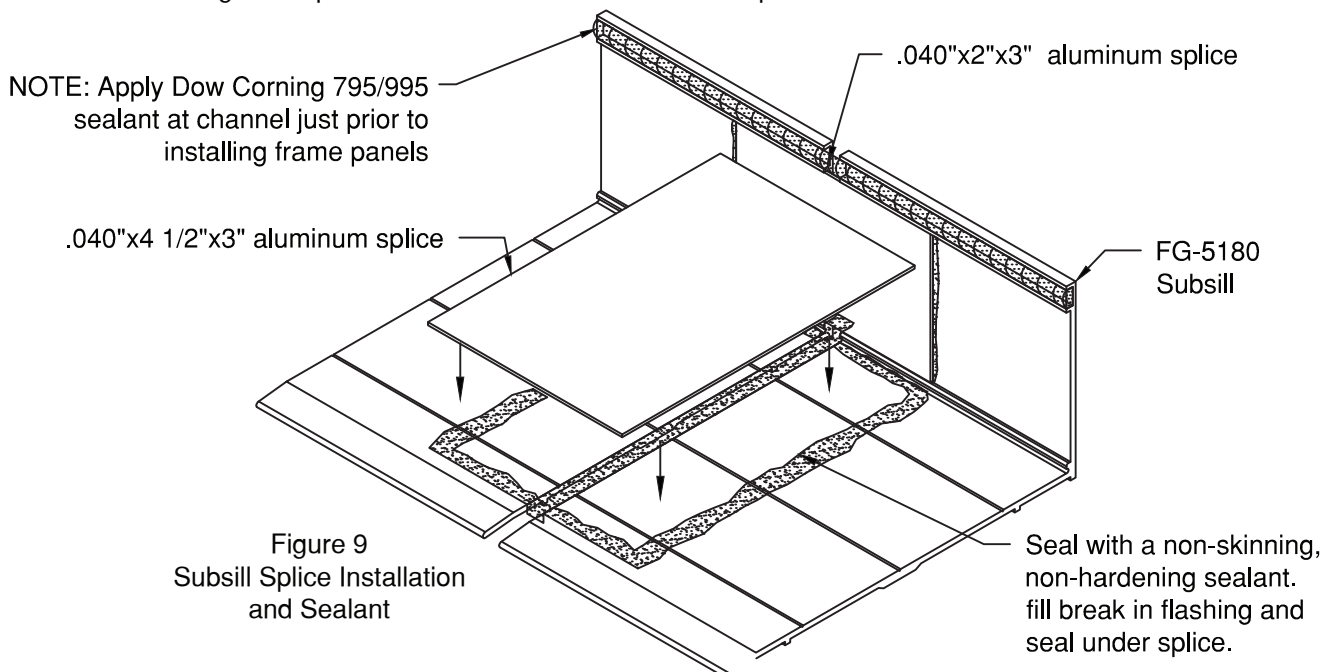

Figure 9
- 3.1.3 Apply sealant to 0.040" alum splice plates as shown at all subsill splices. See Figure 9.